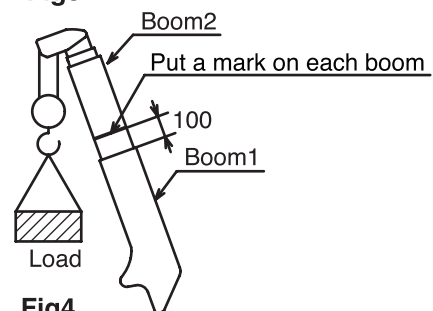

Fig4
- ⑥ Extend booms to a position where it is a little bit shorter than 2-section boom to put a mark on the boom (refer to Fig. 4).
- ⑦ Raise booms to their maximum to sling a load.
- ⑧ In order to release pressure remained in the telescoping system, stop the engine and shift the manual lever for telescoping booms.
- ⑨ Remove the retraction hose.